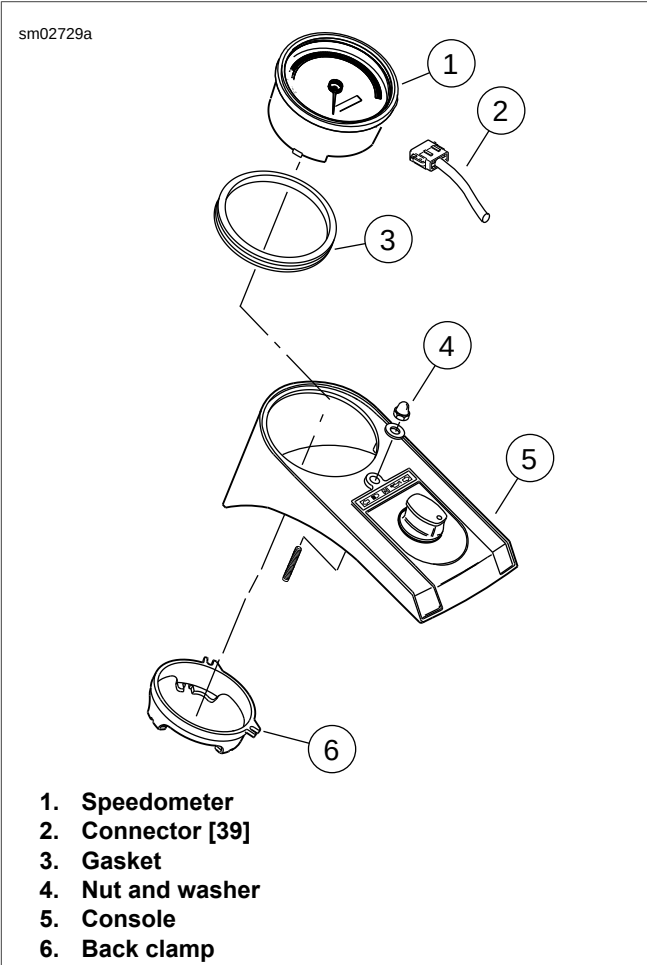
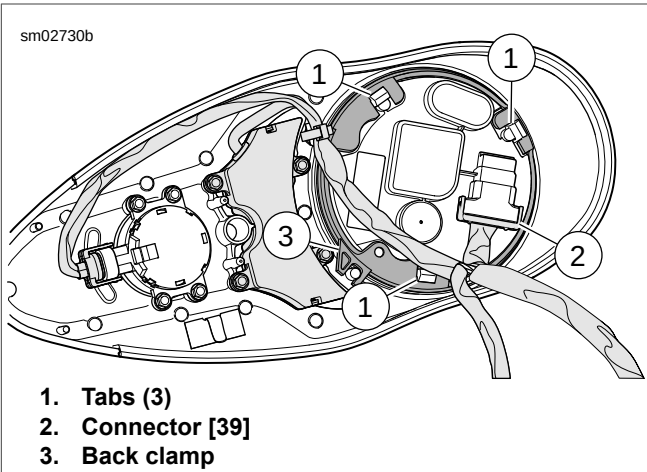

Figure 7-84. Speedometer: All But FXS/B (Typical)
Figure 7-85. Connector [39] (Typical)
- See Figure 7-84. Remove nut and washer (4) and lift console (5) from fuel tank.
- Press on connector tab and disconnect connector [39] (2) from speedometer under console.
- See Figure 7-85. Pry between three tabs and speedometer with a screwdriver to raise and release back clamp from speedometer. Remove back clamp from speedometer.
- See Figure 7-84. Remove speedometer from console.
- Remove gasket (3) from speedometer.
- See Figure 7-84. Install gasket (3) to speedometer.
- Position speedometer in console (5).
- See Figure 7-85. Press on back clamp (3) until three tabs engage on back of speedometer.
- See Figure 7-84. Connect connector [39] (2) to speedometer under console.
- Remove shop rags. Attach console to fuel tank with nut and washer (4). Tighten to 84-132 in-lbs (9.5-14.9 Nm).